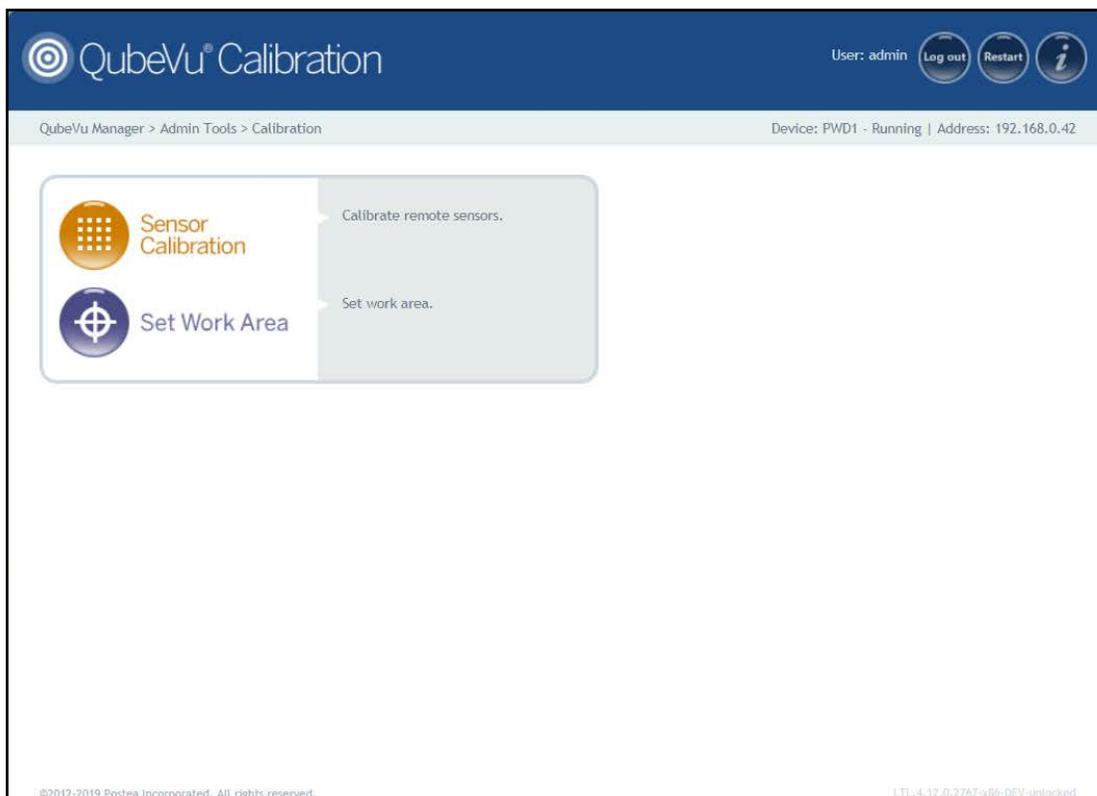

Figure 5-1. Calibration Menu
1. Press  **Sensor Calibration** from the **Calibration** menu (Figure 5-1 on page 24) to enter the **Remote Sensors Calibration** menu.
- Press  **Set Work Area** from the **Calibration** menu (Figure 5-1 on page 24) to enter the **Set Work Area** menu.